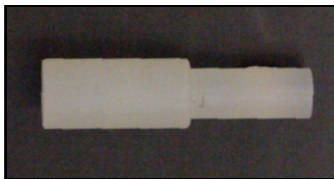

Figure 30 - Blocking Dowel
1. Use a blocking dowel (Figure 30) to keep the rotors from turning when removing the rotor nuts.